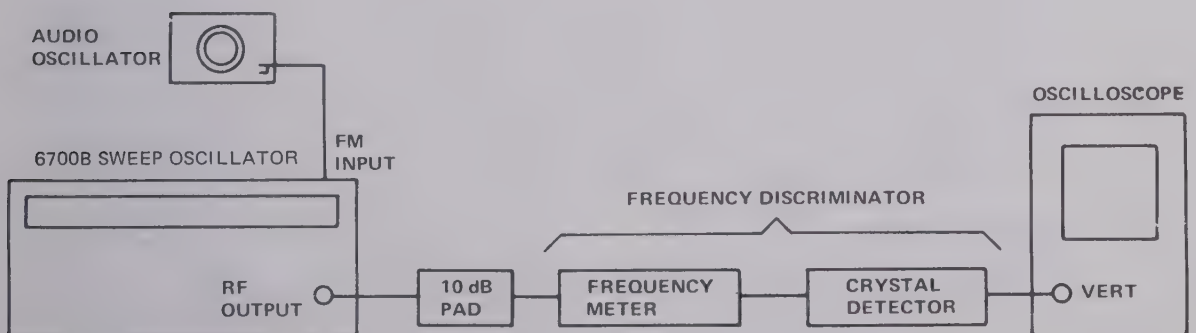

Fig. 5 Frequency modulation test set-up
(1) Connect equipment as shown in Fig. 5.
(2) Set controls as follows: